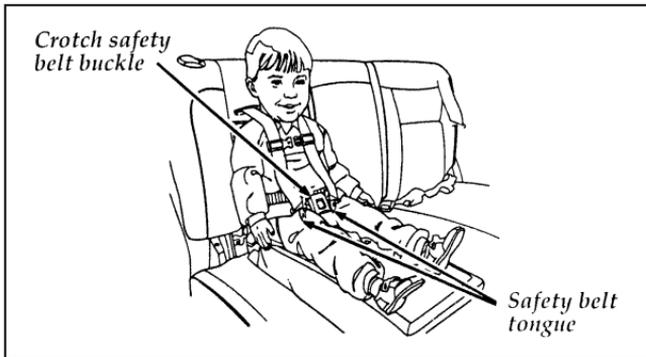

Figure 5: Shoulder safety belt placement on the child
5. Allow the belt to retract. Pull up on the shoulder webbing. A clicking sound will be heard as the belt retracts. This indicates the retractor is in the automatic locking mode. Push down on the child seat while you pull up on the belt to remove any slack in the belt. Figures 5 and 6.
6. Place the child on the child seat and position the shoulder belts over each shoulder. Refer to Figure 5.
3. Slide the shoulder belts off the child's shoulders and remove the child. Refer back to Figure 5.